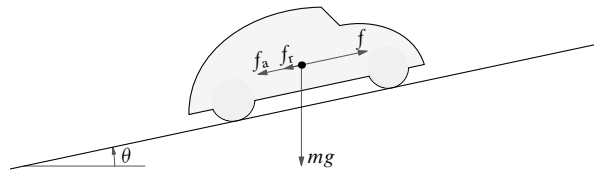

Fig. 4: System for Question 3
**Question 3.** Consider again the problem of cruise control for a vehicle, like that depicted in Fig. 4. The problem here is to maintain the vehicle velocity  $v$  at prespecified levels by changing the driving force  $f$  generated by the engine. As we already know (Tutorials 3 and 5), the linearized (around some given velocity  $v_{eq}$ ) model of this system is